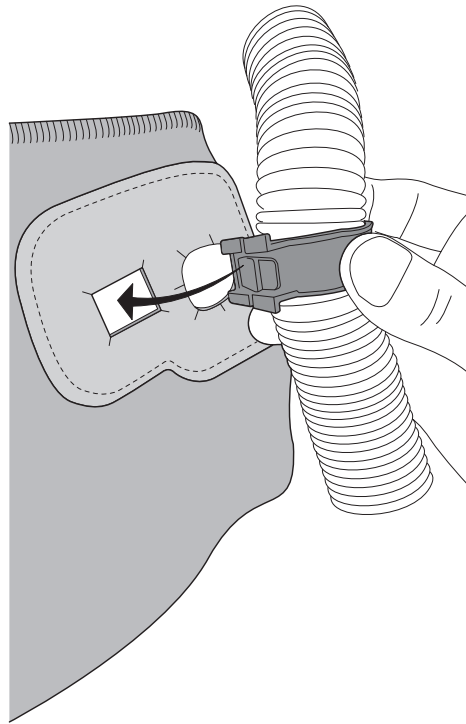

Fig. 18b
- b. While holding the airduct tube holder ring together, push it through the rectangular hole in the back of the shroud (Fig. 18b).